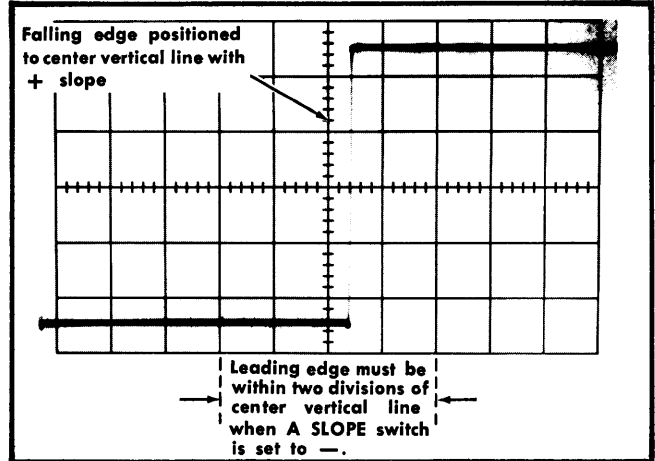

Fig. 5-46. Typical CRT display when checking calibrator duty cycle.
g. CHECK—50% point on rising edge now displayed not more than two divisions from the center vertical point (duty cycle 49% to 51%; see Fig. 5-46).